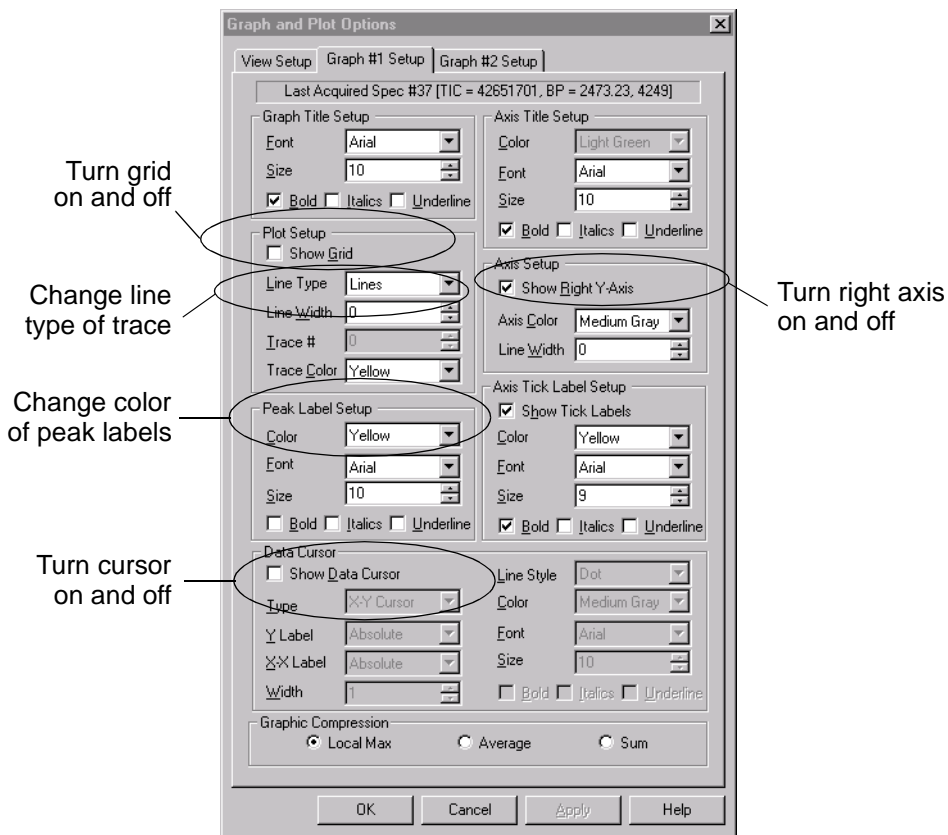

Figure 4-6 Graph and Plot Options Dialog Box
To customize the display, use the Graph and Plot Options dialog box (Figure 4-6) to:
2. From the Display menu, select **Graphic Options**, then click a **Graph Setup** tab in the Graph and Plot Options dialog box (see Figure 4-6 on page 4-23).